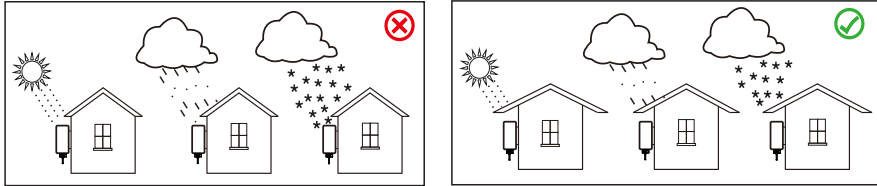

Figure-4.1 Installation position
- Exposure to direct sunlight will increase the operational temperature of the inverter and may result output power limiting as well as expose the inverter body to UV rays. It is recommended that inverter is installed to avoid direct sunlight or rain (as shown in figure-4.1).